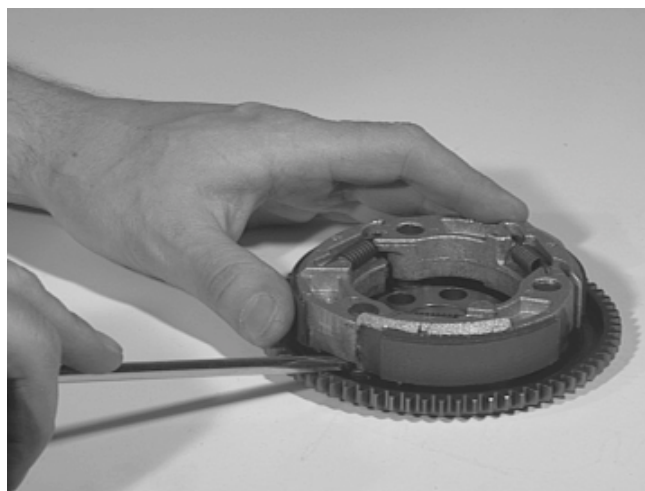

Figure 35.1
⇒ Gradually remove the 3 flyweights along with the engaged springs from the bearing pins on the starter gear (5), utilizing a suitable tool (see fig. 35.1)